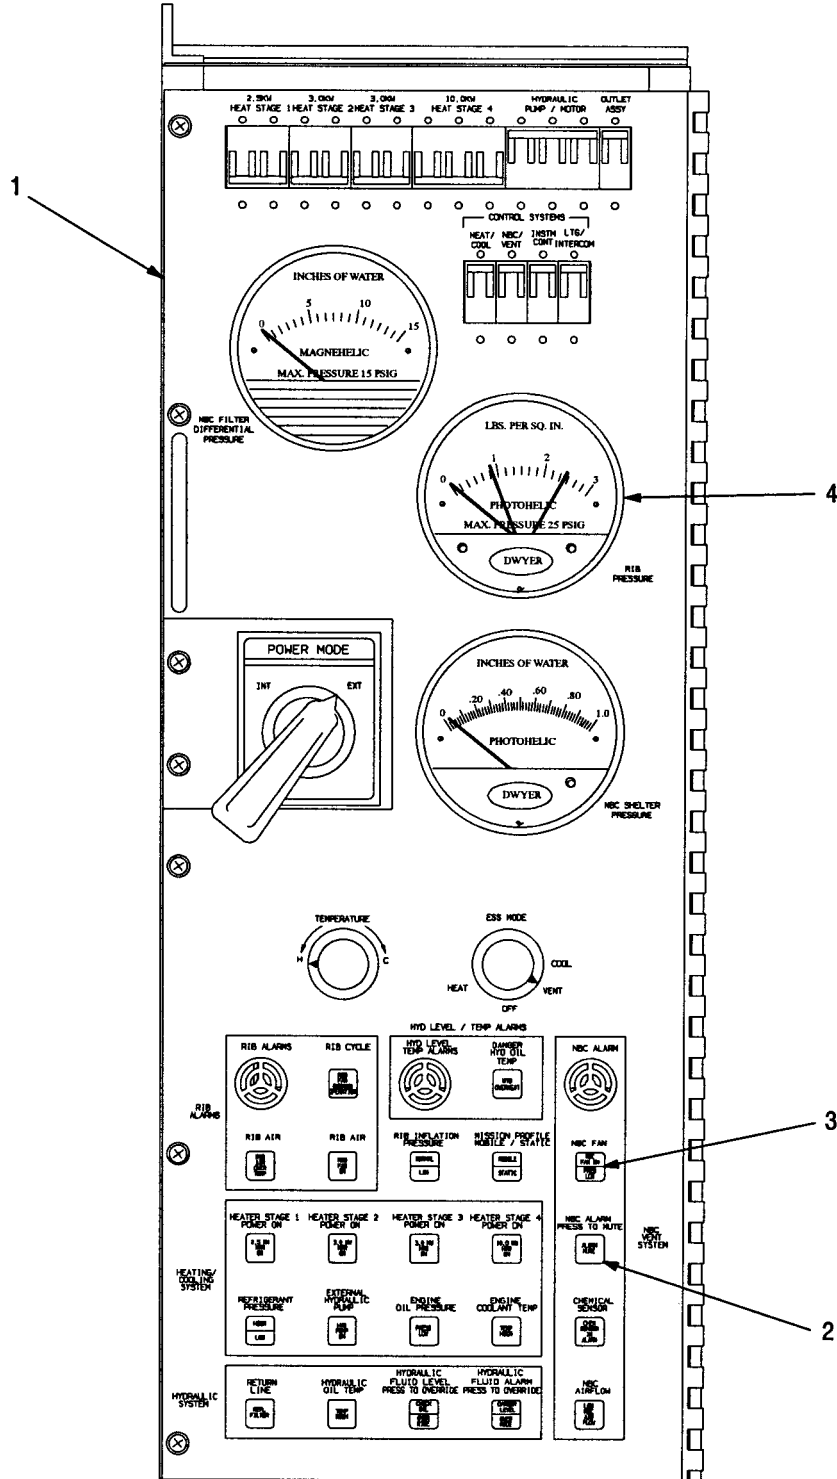

Figure 2-50. Rear Control Panel Settings Switchover
- (1) Remove chemically protective masks. Observe appropriate decontamination procedures.
- (2) On rear control panel (1, figure 2-50), ensure NBC ALARM (press to mute) switch (2) has been turned off and ALARM MUTE indicator light (blue) is off.
- (3) Press NBC FAN switch (3) on rear control panel (1) to turn off NBC fan. NBC FAN ON indicator light (green) will go off.
- (4) Access door and the emergency exit hatch may be opened as required.
- (5) TALP, DCS and ambulatory airlock doors may be opened as required.
- (6) Use operating procedure for static operation under usual conditions (refer to para 2.24.2).
- (7) This completes switchover from NBC to non-NBC conditions in static mode. Operate system in static mode as mission requires.